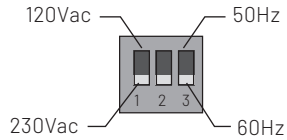

Figure 8: DIP Switches
**DIP Switch 1 – 120/230Vac:** See Figure 8.